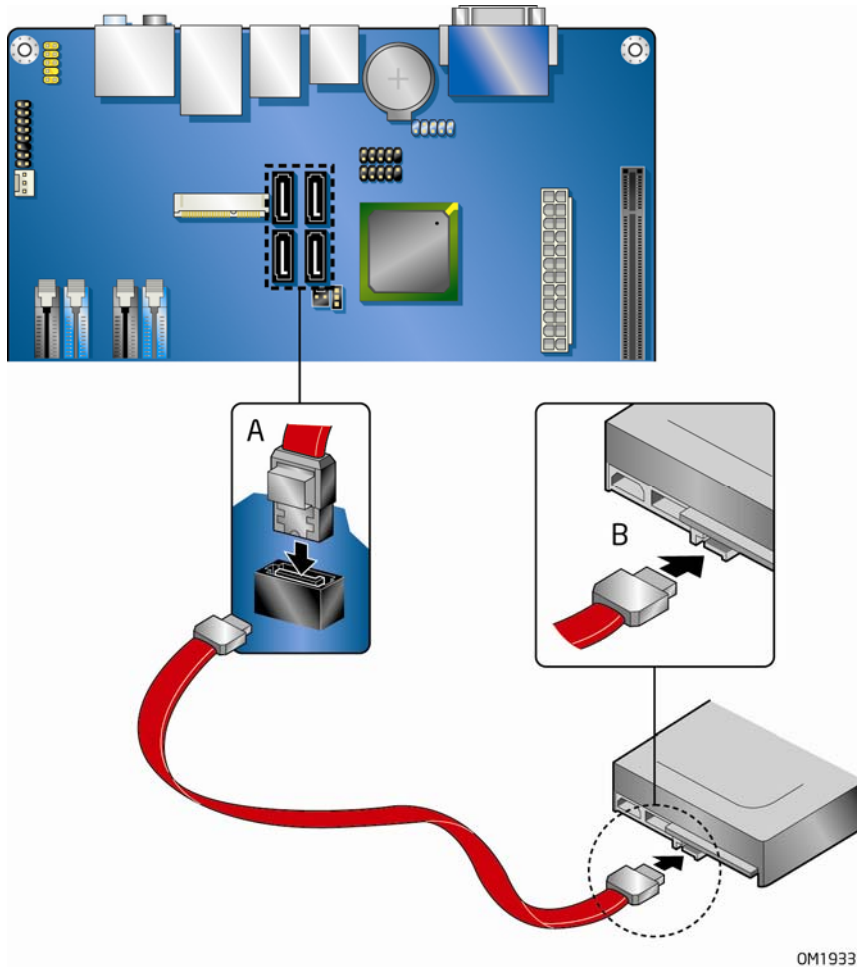

Figure 25. Connecting the Serial ATA Cable
2. Attach the locking cable end to the connector on the board (Figure 25, A).
3. Attach the cable end without the lock to the drive (Figure 25, B).